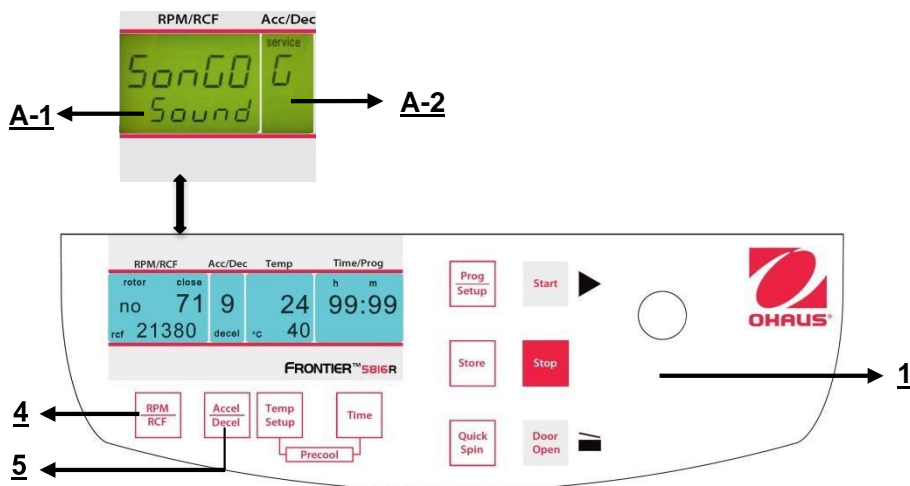

Figure. 37
Proceed as described under point 4.1.1 to enter this program mode and then press the key "Accel/Decel" (5). In the display "Acc/Dec" (A-2) the word "Service" flashes. Now select the letter "G" with the adjusting knob (1). As a result, in the display "RPM | RCF" (A-1), the word "SonGo/Sound" appears. After pressing the key "RPM | RCF" (4), you can select a song with the adjusting knob (1). (See figure 37).